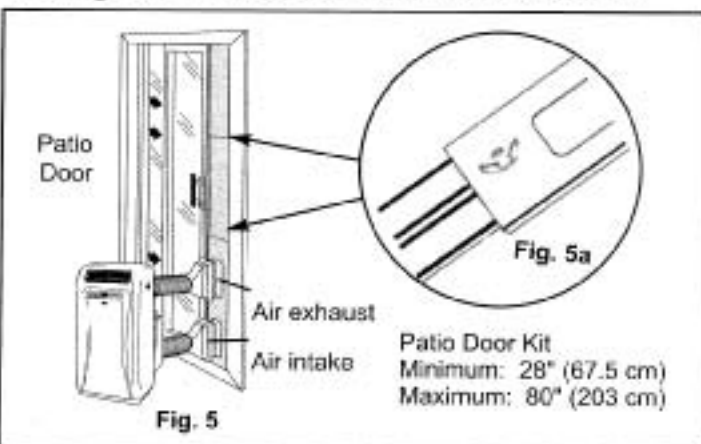

Fig. 5
**Please Note:** In a vertical application, the exhaust hose **MUST** be positioned above the intake hose in the window slider. See Fig. 5. This will avoid having the exhaust heat go through the intake and back into the unit.